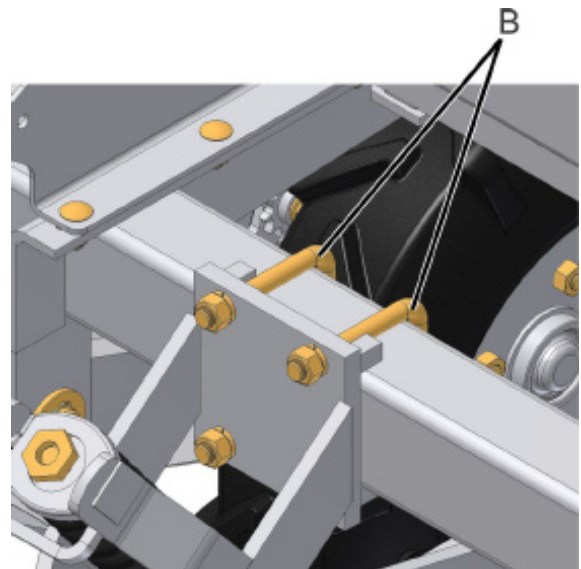

fig. 05
- 4- Loosen the two clamps fastening the furrow line unit (B) (fig. 05), leaving it free related to the chassis structure. Move to the intended spacing;